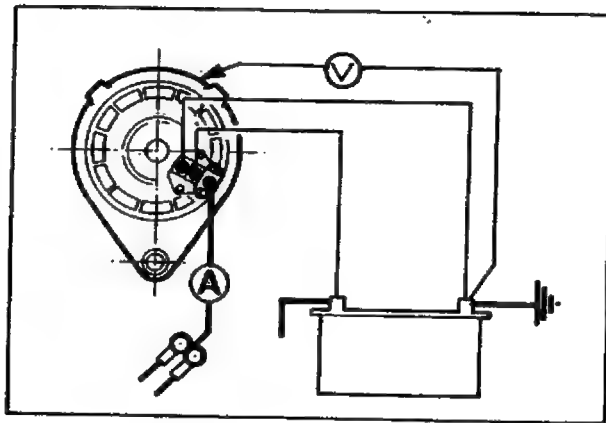

Fig. 22 – Charging Circuit Voltage Drop Test (earth side)
8. Now transfer the meter connections to the alternator frame and battery earth terminal, Fig. 22 and again note the reading.